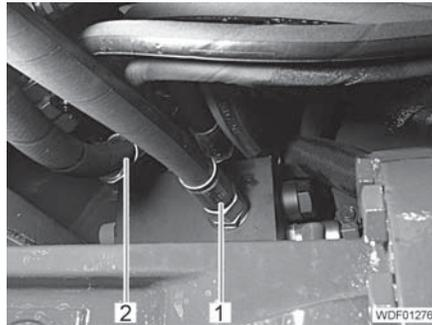

Fig. 189 Hydraulic lines
- Unscrew and close off the 2 hydraulic lines (Fig. 189,1 and 2).
- Screw the 2 hydraulic lines (Fig. 189,1 and 2) onto the connections on the valve and tighten.